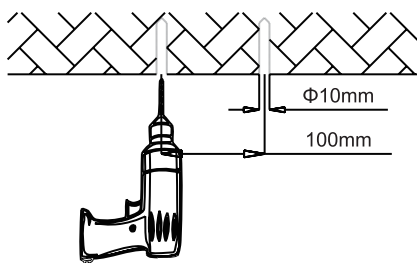

Figure 5
1. Mark the mounting points on the surface (Figure 5) and drill holes.